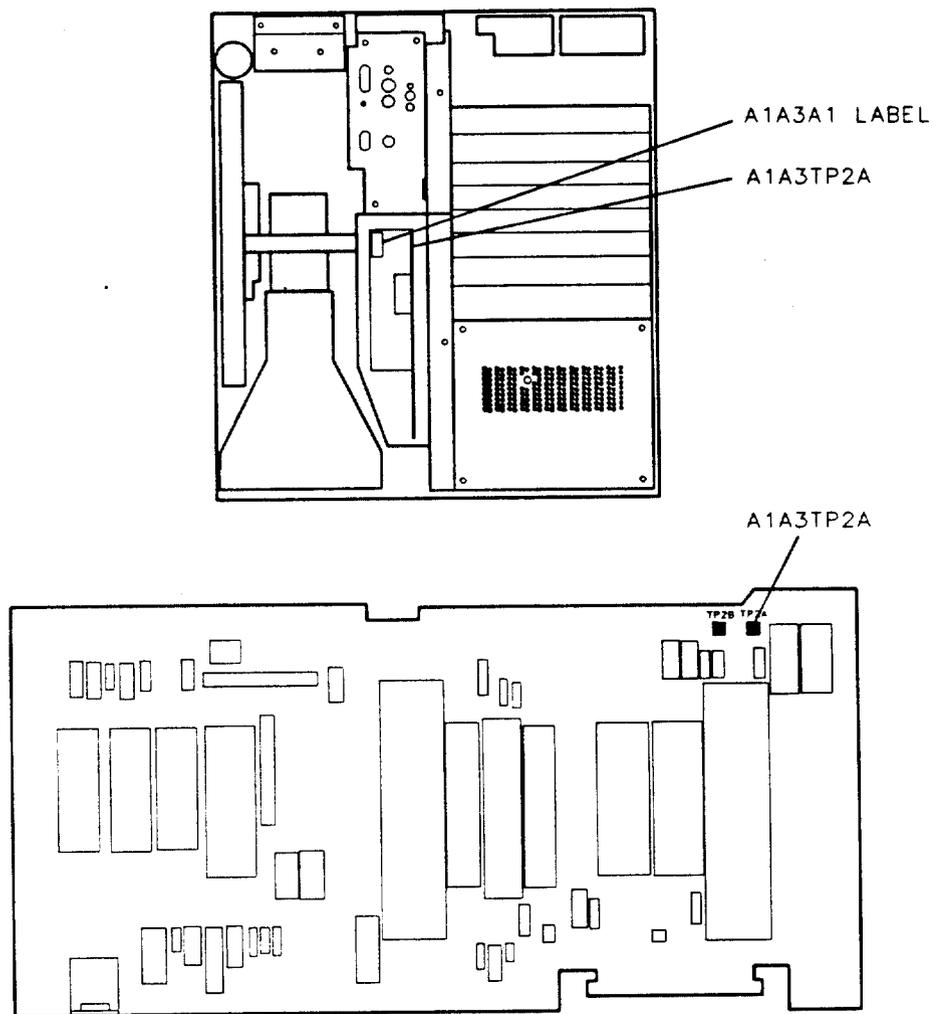

Figure 6. Location of Label and Test Point
10. Remove the protective cover from the A1A3 High-Voltage Regulator. A label should be visible on the A1A3A1 assembly. (A1A3A1 is mounted on the non-component side of the High-Voltage Regulator as shown in Figure 6.) Record the voltage listed on the label for use in step 14. (The voltage number will be between 2200V and 2600V. Disregard any other numbers on A1A3A1.)
11. Connect the high-voltage probe to A1A3TP2A. See Figure 6 for the location of the test point.